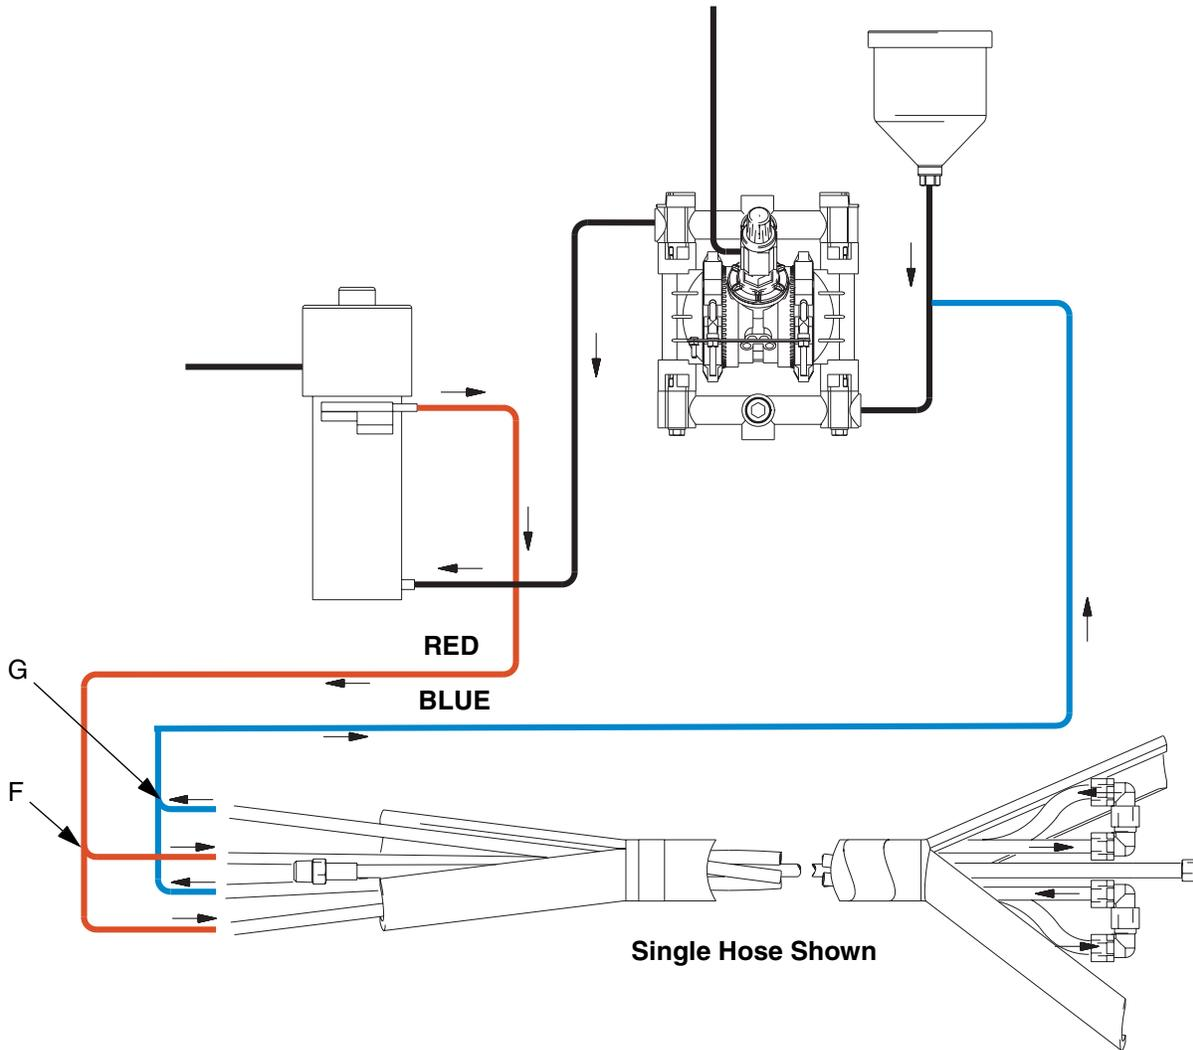

FIG. 6: Fluid schematic for heated hose
- F Heated hose tee fittings (see heated hose connections on page FIG. 5 and FIG. 6 on page 12 and 13.)
See FIG. 6 on page 13 for fluid schematic of heated fluid.
10. Wire Viscon HP heater (B) to your voltage supply. Follow wiring procedure in the Viscon HP manual 309524.
11. If heating hoppers, remove plugs (P) from hopper (C). Install bushings (11) and elbows (7). Repeat for second hopper.
12. Cut tubing (4) as specified in FIG. 2 on page 9 or FIG. 6 on page 13.
- a. Use tubing cutter to cut tubing (4) squarely to desired lengths.
- b. Insert tube inserts (8) in tubing (4) ends to avoid leakage.
- c. Insert tubing (4) through the back of the nut in each of the plastic fittings (7) until the tube stops. Tighten the nut hand tight, then tighten it to 1-1/2 to 2 turns with a wrench.
See FIG. 6 on page 13 for fluid schematic and tubing lengths.